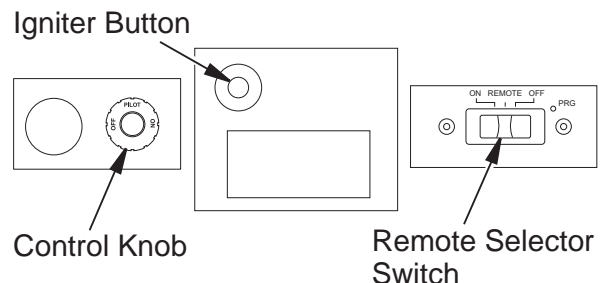

Figure 32 - Remote Selector Switch, Control Knob and Igniter Button
3. Set remote selector switch in the AUTO position (see *Figure 32*).
4. Press in and turn control knob clockwise  to the OFF position (see *Figure 32*).
5. Wait five (5) minutes to clear out any gas. Then smell for gas, including near the floor. If you smell gas, STOP! Follow "B" in the safety information on column 1 of this Page. If you don't smell gas, go to the next step.
6. Press in and turn control knob counterclockwise  to the PILOT position. Press in control knob for five (5) seconds (see *Figure 32*).
1. Press on/off key on remote control and turn control knob clockwise  to the OFF position (see **Figure 32, Page 17**).
When batteries in receiver are low, no acoustic signal will be given when ON/OFF button is pressed. If batteries in receiver are low, fireplace can be switched on manually by moving remote selector switch to ON (see **Figure 32, Page 17**).